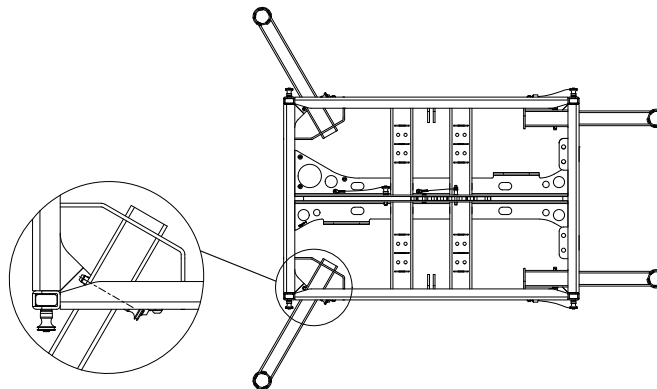

Figure 4.4.3 – Front-mounting the VERA ORF900 outrigger on the VERA RF600
3. Always insert all quick-locking pins completely through all square tubes (see Figure 4.4.3 left).